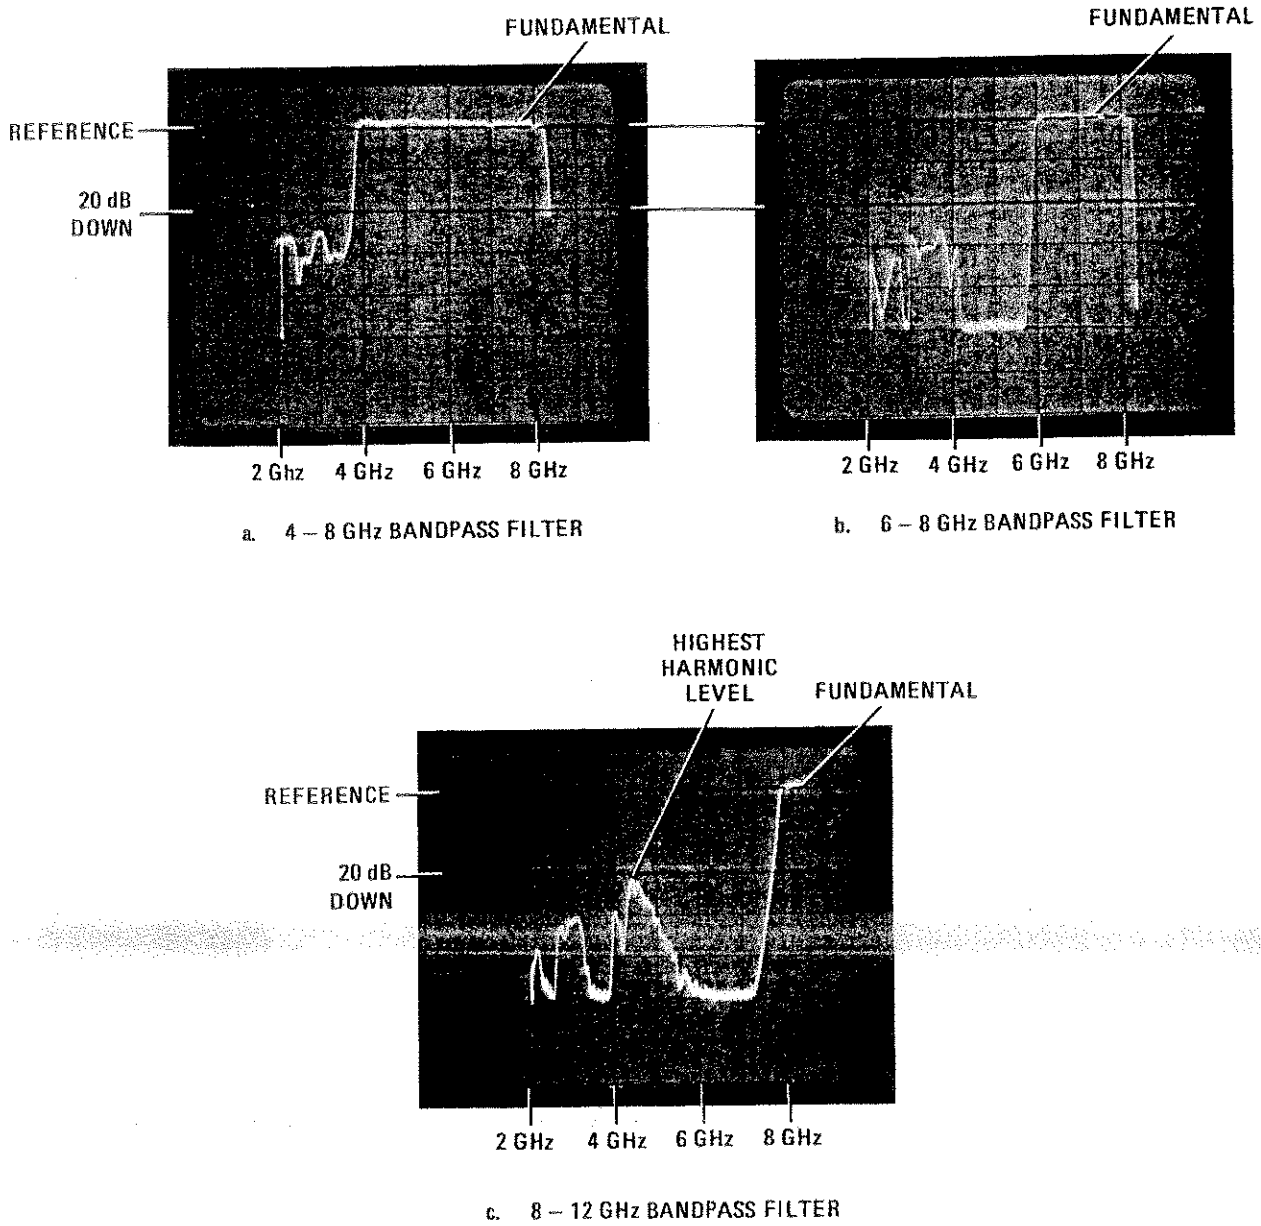

Figure 4-12. Harmonics with Bandpass Filters
- d. Set the 8755B offset VERNIER to bring the top of the trace on the display one division below the top of the screen (see Figure 4-12). If necessary, adjust SLOPE for flat trace.